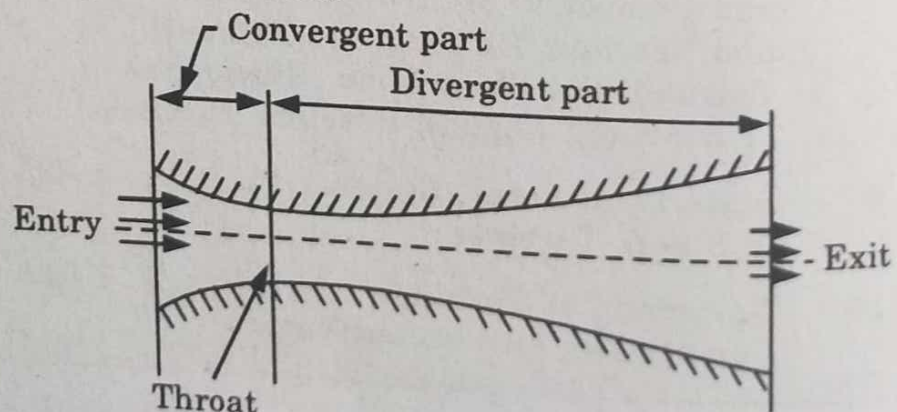

Fig. 4.1.1. C
1. Fig. 4.1.1 shows a convergent-divergent nozzle. It has a varying cross-section passage which firstly decreases up to a fixed portion and then increases up to outlet area.